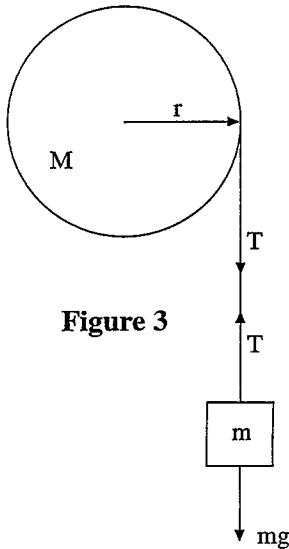

Figure 3
When we examine **Figure 3**, we can see that when a smaller mass, m , is dropped to accelerate a system of mass, M , and radius, r , the force causing the disk to rotate is the Tension, T . Also, we see that this tension is acting at a distance, r (the radius) away from the pivot point. Therefore, equation (8) becomes: